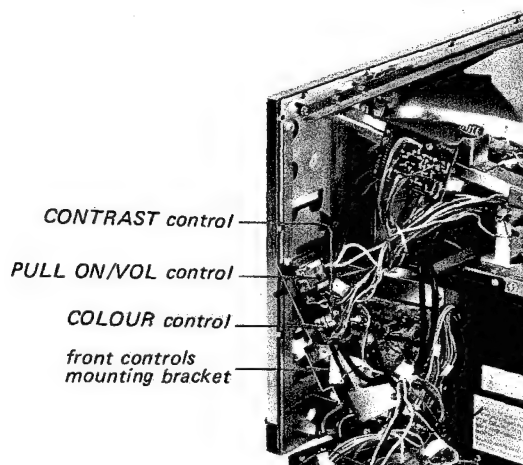

Fig. 2-25.
8. Pull out the front controls mounting bracket as shown in Fig. 2-25.